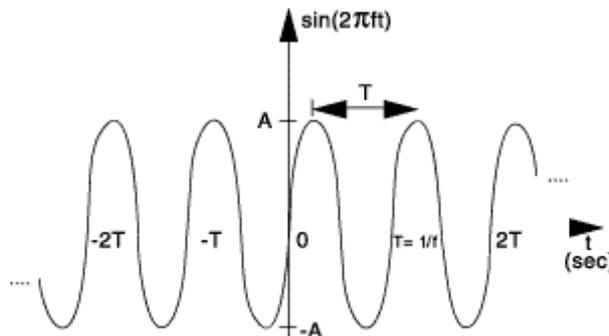

Figure A-3. Sine wave with amplitude A , frequency f , and period T .
The sine wave equation: All of us should have studied the sine and cosine trigonometric functions in math and physics classes. A sine wave is described by an equation of the form $v(t) = A \sin(2\pi ft) = A \sin(\omega t)$, where the variable t represents time. We use the term "wave" because the shape is similar to a water wave that you might see on an ocean or a lake. As shown in Figure A-3, a sine wave is characterized by two parameters, called amplitude (A) and frequency (f). The amplitude A determines the maximum value that the sine wave achieves along the vertical axis. The sine wave takes on values between $+A$ and $-A$ at various times.
Adding a DC offset: If we add a DC offset voltage to the sine wave signal, as shown in Figure A-3, it moves the wave such that it is centered around the DC offset. The equation becomes $v(t) = A \sin(2\pi ft) + V_{DC}$. In electronics, the AC and DC parts of a signal can be treated as two mutually exclusive entities.